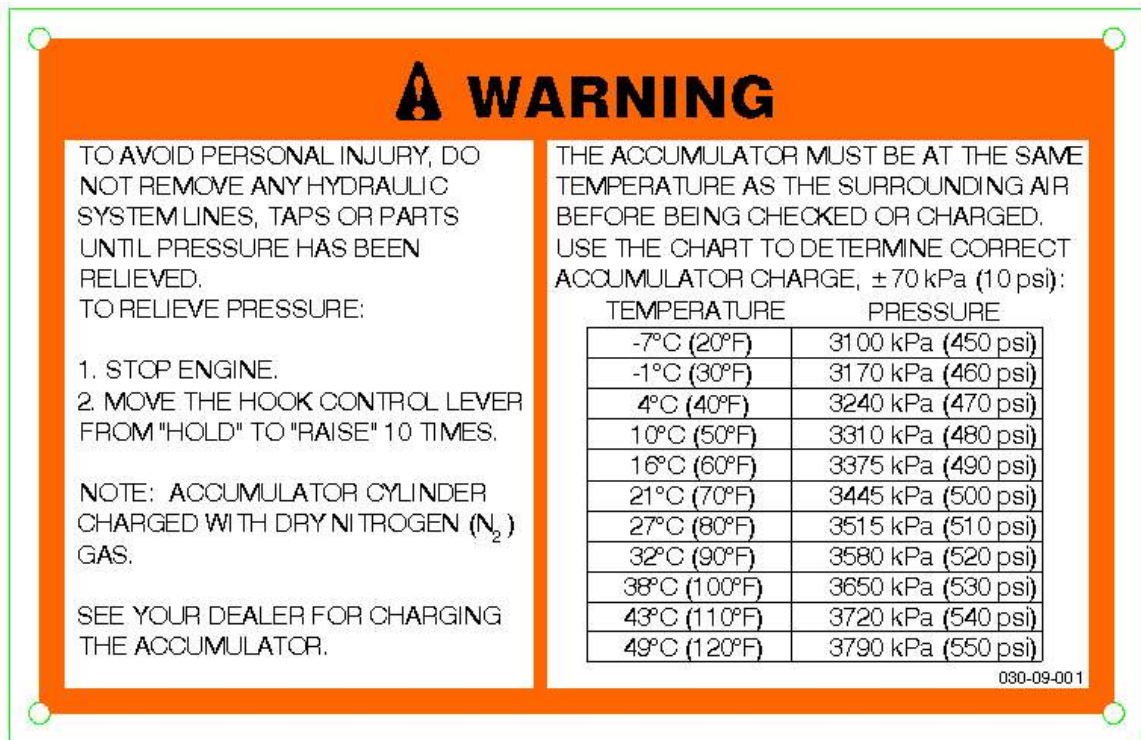
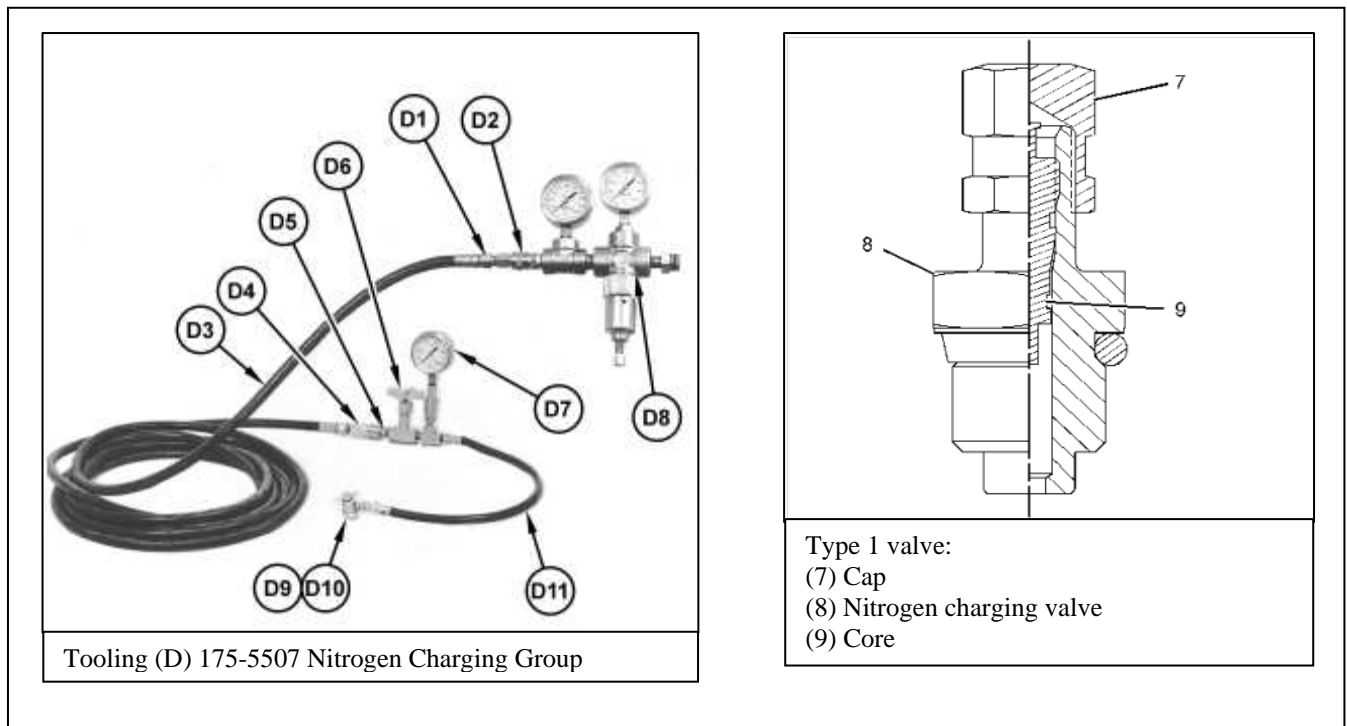

Figure 32: Accumulator high pressure warning and charge decal; located on main guard cover on the right-hand side of pipelayer.
Figure 38: Type 1 Valve references
1. On the accumulator, remove cap (7) on nitrogen charging valve (8).
4. Attach nitrogen charging chuck (D9 or D10) and hose assembly (D11) to nitrogen charging valve (8).
5. Attach hose assembly (D11) between nitrogen charging chuck (D9 or D10) and the tee. Install needle valve (D6) to the tee. Refer to Figure 38. Install pressure gauge (D7) in the remaining open port on the tee.
7. Turn valve handle of nitrogen charging chuck (D9 or D10) in the clockwise direction in order to open nitrogen charging valve (8).
9. Adjust pressure regulating screw on the regulator to obtain the correct pressure reading on the gauge, refer to Figure 32 for the correct pressure reading based on temperature. Use tooling (F) to determine the correct temperature.
3. Install regulator assembly (D8) on nitrogen tank valve. Adjust the screw on regulator (D8) to set the appropriate charge pressure. Refer to Figure 32 for the correct pressure reading based on temperature. Use tooling (F) to determine the correct temperature.